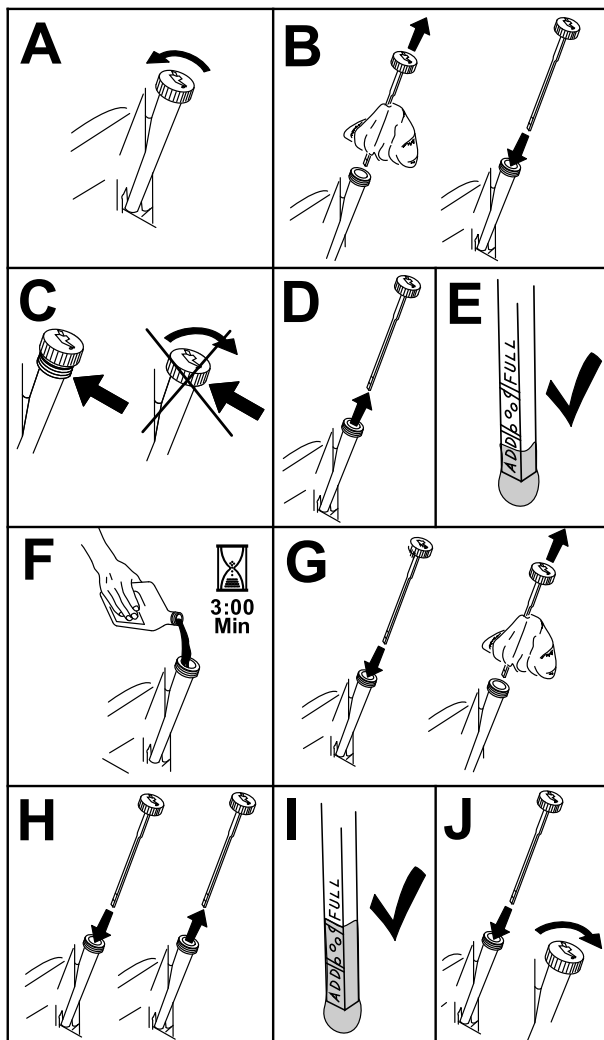

Figure 54
2. Shut off the engine, remove the key, and wait for all moving parts to stop before leaving the operating position (Figure 54).